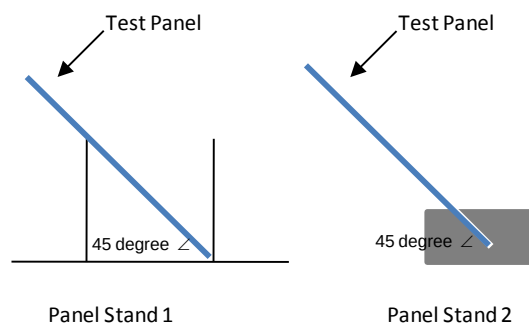

**Figure 1: Typical Panel Stands**
**3.2.5 Panel Stand.** Panel stand capable of holding the test panel at a 45 degree angle through the sealer baking process unless a different angle is specified. Panel stand shall not act as a heat sink or interfere with the flow of the sealer. For typical examples, see Figure 1.